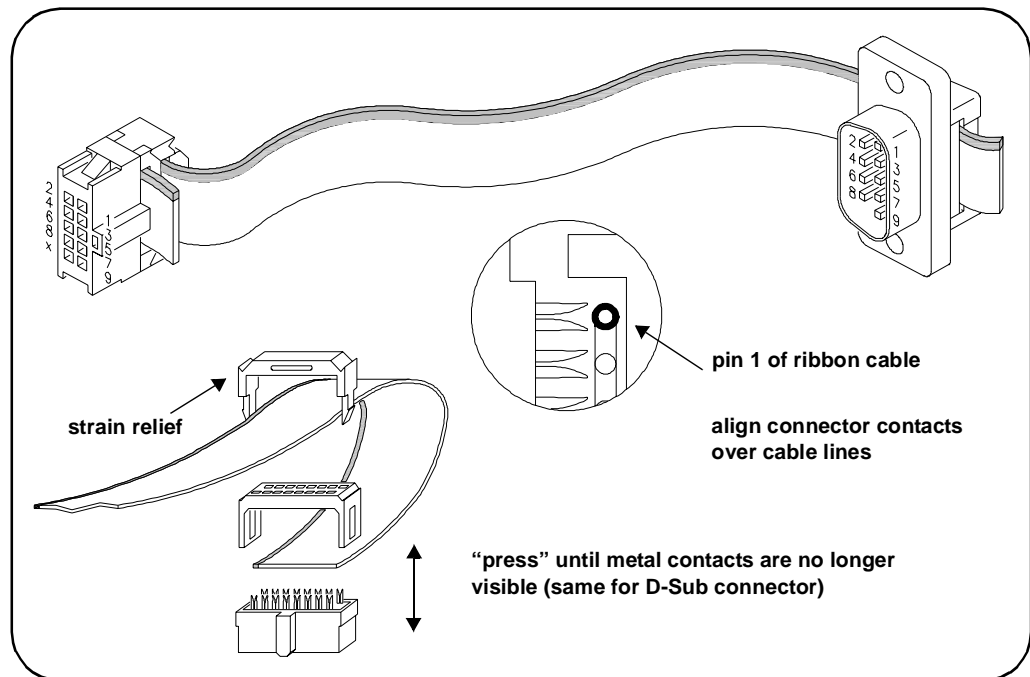

Figure A-2. Y1157A Connector Orientation and Ribbon Cable Routing.
2. Position the D-Sub connector and the ribbon cable connector as shown in Figure A-2. Route the cable **through** the connectors, noting the location of cable pin 1. By convention, pin 1 is indicated in red (the dark line in the drawing).
4. Align the metal contacts of the ribbon connector over cable pin 1 (Figure A-2) and the other pins, press the ribbon cable connector onto the cable using a vise or clamp to press the contacts **evenly** through the cable insulation. Continue to press the connector until the metal contacts are no longer visible.
5. Fasten the strain relief clamp over the cable and into the ribbon cable connector as shown in Figure A-2. Remove any excess cable after the clamp is in place.